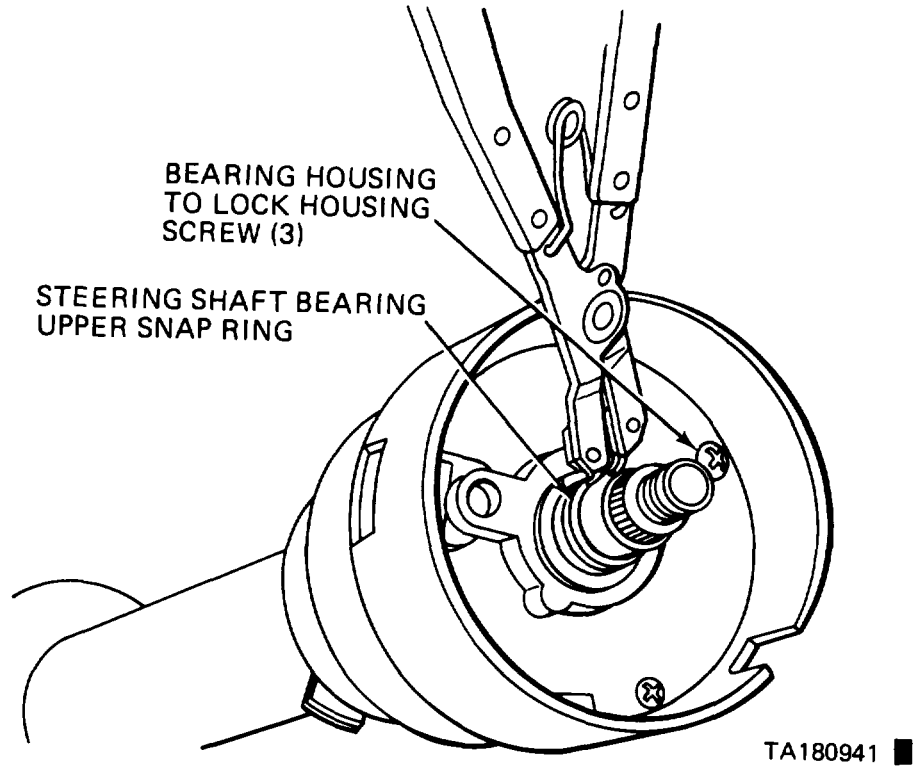
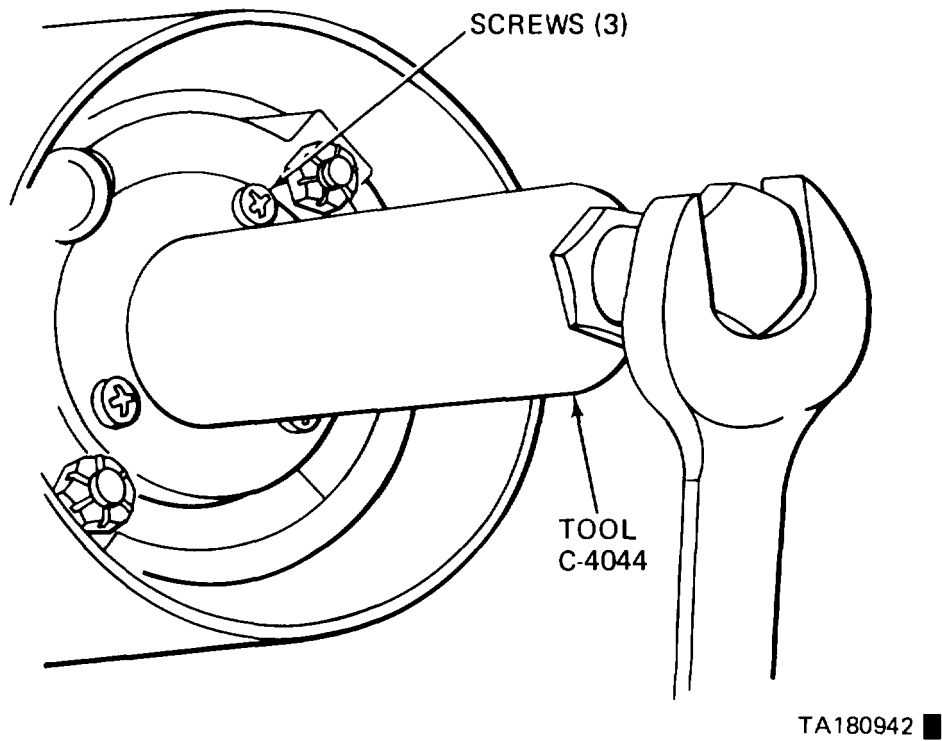

Figure 10-3. Removing the Steering Shaft Upper Snap Ring.
Figure 10-4. Pressing the Shaft Out of the Bearing.
- (5) Remove the two retaining screws and lift the lamp assembly out of the way.
- (6) Remove the snap ring from the upper end of the steering shaft (figure 10-3).
- (7) Remove the three screws which hold the bearing housing to the lock housing.
- (8) Install the steering shaft remover C-4044 and press the bearing housing off the shaft (figure 10-4).
- (9) Place the cylinder in the LOCK position and remove the key. Insert a small diameter screwdriver or similar tool into the lock cylinder release hole. Push it in
(1) Press the bearing housing onto the shaft, using tool C-3879.
(2) Install the three screws which hold the bearing housing to the lock housing.
(3) Install the snap ring at the upper end of the steering shaft (figure 10-3).